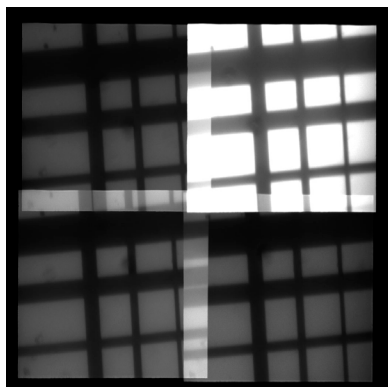

Figure 10. Example of how the four images will look when the QV2 filter cube is inserted.
3. You will now see four images in the image field. If you do not see anything, or if the images are very dim, increase the intensity of the brightfield light until the images are visible on the computer screen. These four images correspond to the same 512 x 512 field of view that you created in Step 1. The four images are separated into four color channels and each is positioned near its own quadrant of the CCD (**Figure 10**).